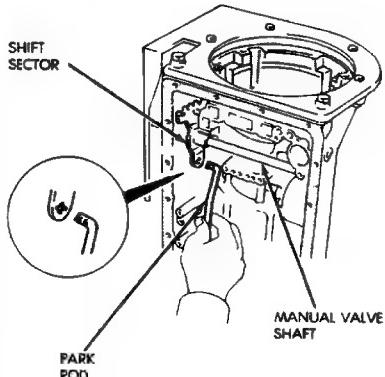

Fig. 21 Removing/Installing Park Rod
- (4) Remove park rod from shift sector (Fig. 21).
- (12) Lubricate manual valve shaft and install it in case.
- (13) Lubricate sector and sleeve and install them on shaft.
- (14) Align hole in spacer sleeve with notch in sector. Then install shift sector roll pin. Tap pin into sector and shaft and stake sleeve to sector and shaft securely.
- (15) Connect park rod to sector (Fig. 21).